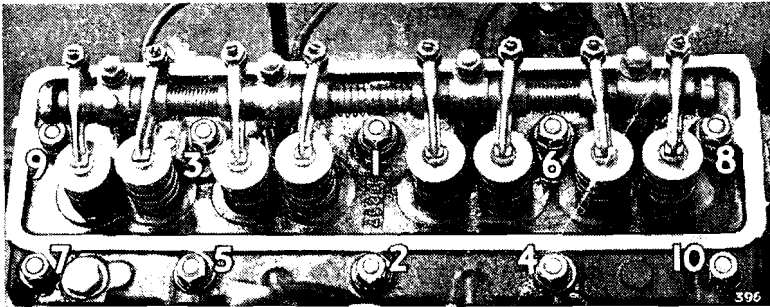

Fig. 13. Order of tightening cylinder head nuts.
5. When replacing the cylinder head nuts, tighten them gradually in the sequence shown in Fig. 13, in order to produce an even pressure on the gasket and prevent undue strain in the cylinder head casting.
After the first 500 miles (800 km.) the cylinder head nuts should be checked for tightness, with engine hot, in the order shown in Fig. 13.